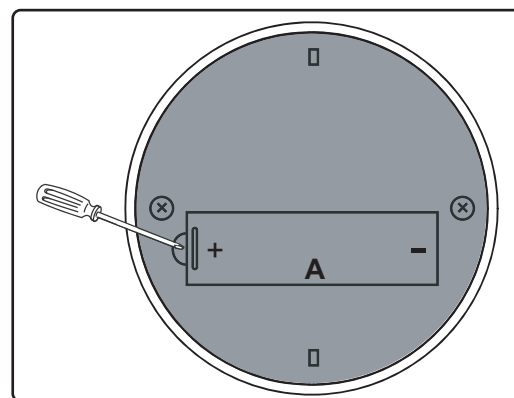

FIG. 4
Using a small flat head screwdriver, raise the cover of the battery door (A) in order to access the battery compartment. FIG. 4.